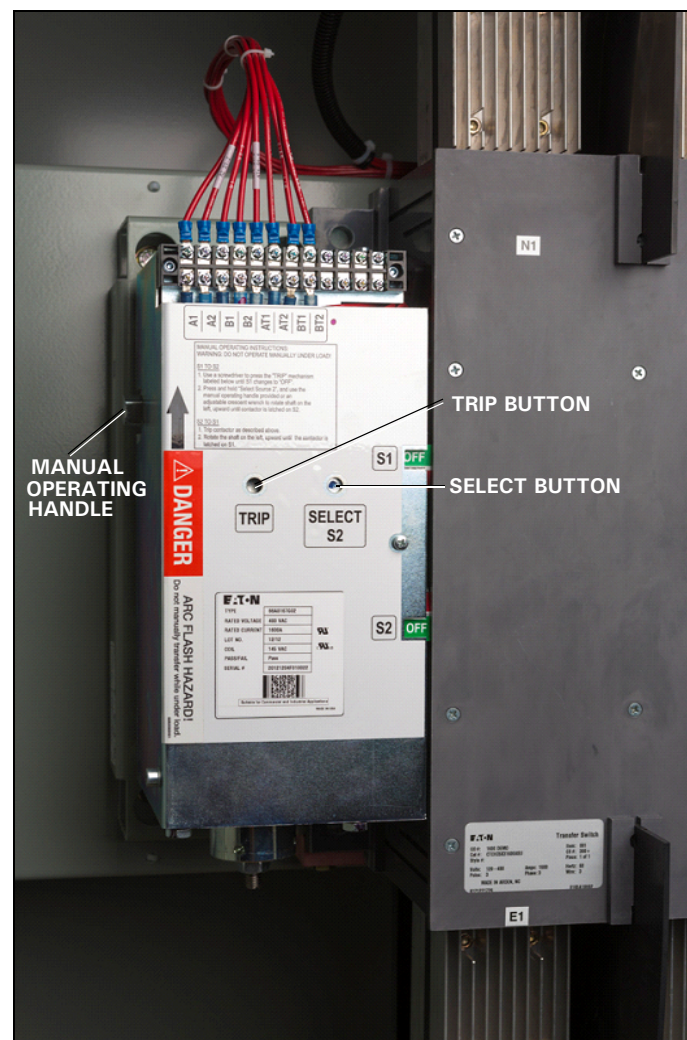

Figure 15. Troubleshooting Manual Operation of the Transfer Switch
Step 3: Attach the lever to the manual operating handle (see Figure 15) and rotate the lever up to go to Source 1.